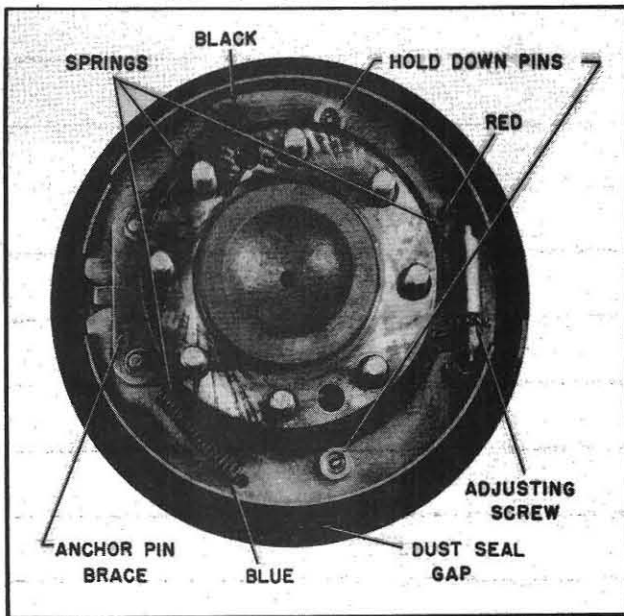

Fig. 279
3. Remove the three springs and the anchor pin brace, see Fig. 279. Remove the two brake shoe hold-down pins and springs, and the brake adjusting screw and lift off the brake shoes.